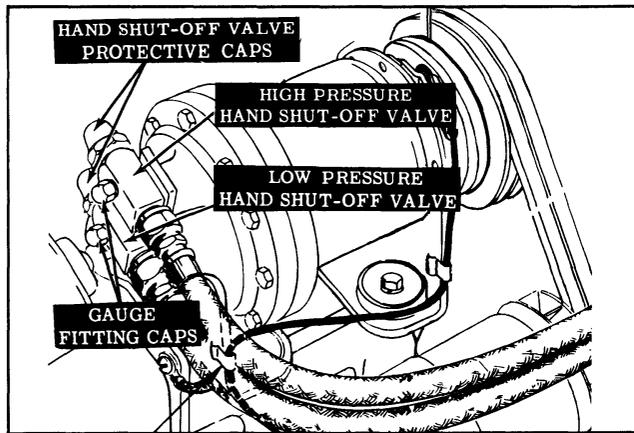

Fig. 14-28 Shut-Off Valves
1. With the engine stopped, remove valve caps from compressor high and low pressure hand shut-off valves. (See Fig. 14-28)